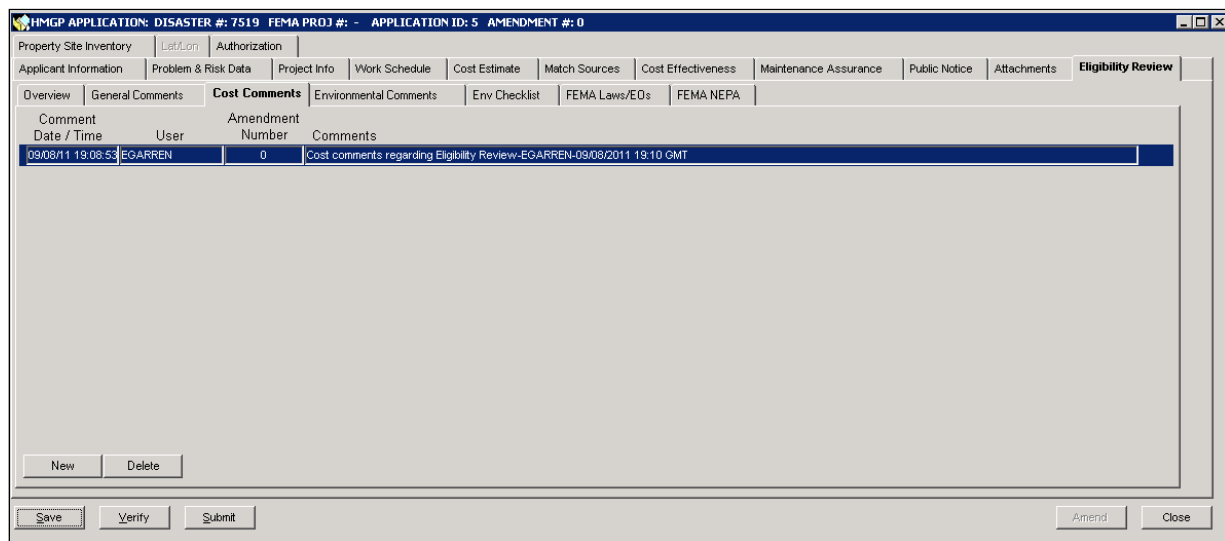

Figure 6-73: Cost Comments Sub-tab with Comments Added
- c. Enter your comments and click the OK button. The comments you entered are displayed on the **Cost Comments** sub-tab (Figure 6-73).